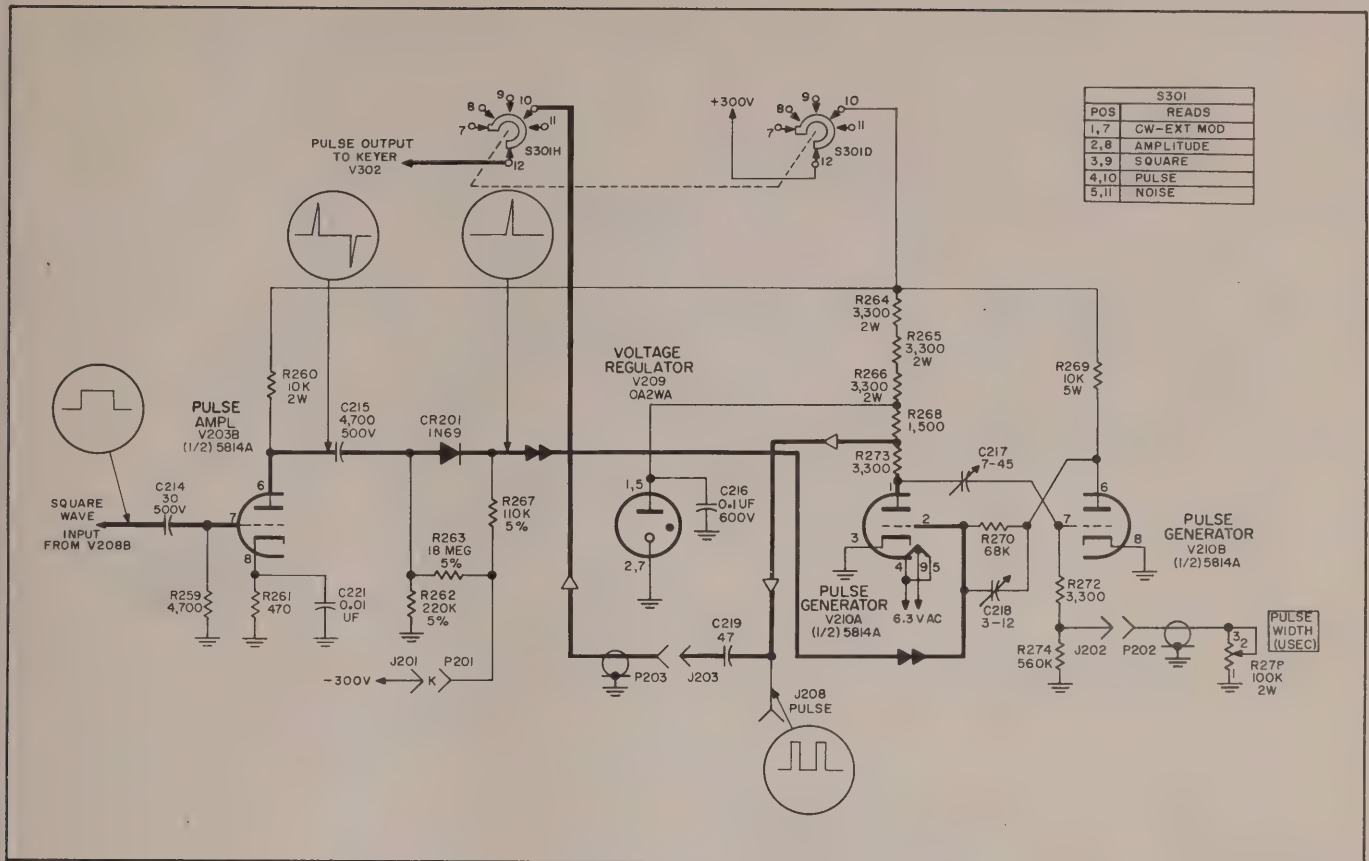

Figure 6-6. Pulse Generator Circuit, Simplified Schematic Diagram
**6-15. PULSE GENERATOR CIRCUIT.** The pulse generator circuit (see figure 6-6) produces a positive pulse, from one to five microseconds in duration, from a square wave input. The generator is comprised of a differentiating circuit, C214 and R259; a pulse amplifier V203B; crystal detector CR201; voltage regulator V209; pulse generator monostable multivibrator V210; and a pulse width adjust potentiometer R278. The circuit functions as follows: